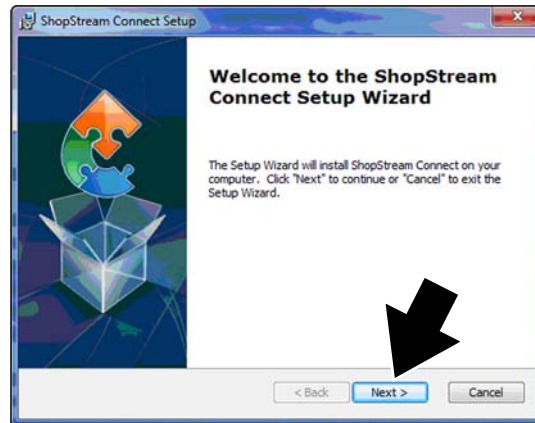

Figure 3-2 Typical Welcome screen
2. Select **Next** (Figure 3-2).